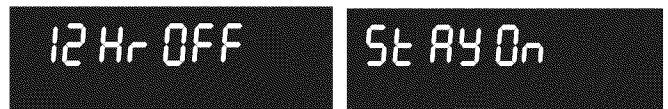

Figure 15: 12 hr energy saving (L) and continuous setting (R)
2. Press **Self Clean** to toggle between 12 Hour OFF or Stay On feature (See Figure 15).